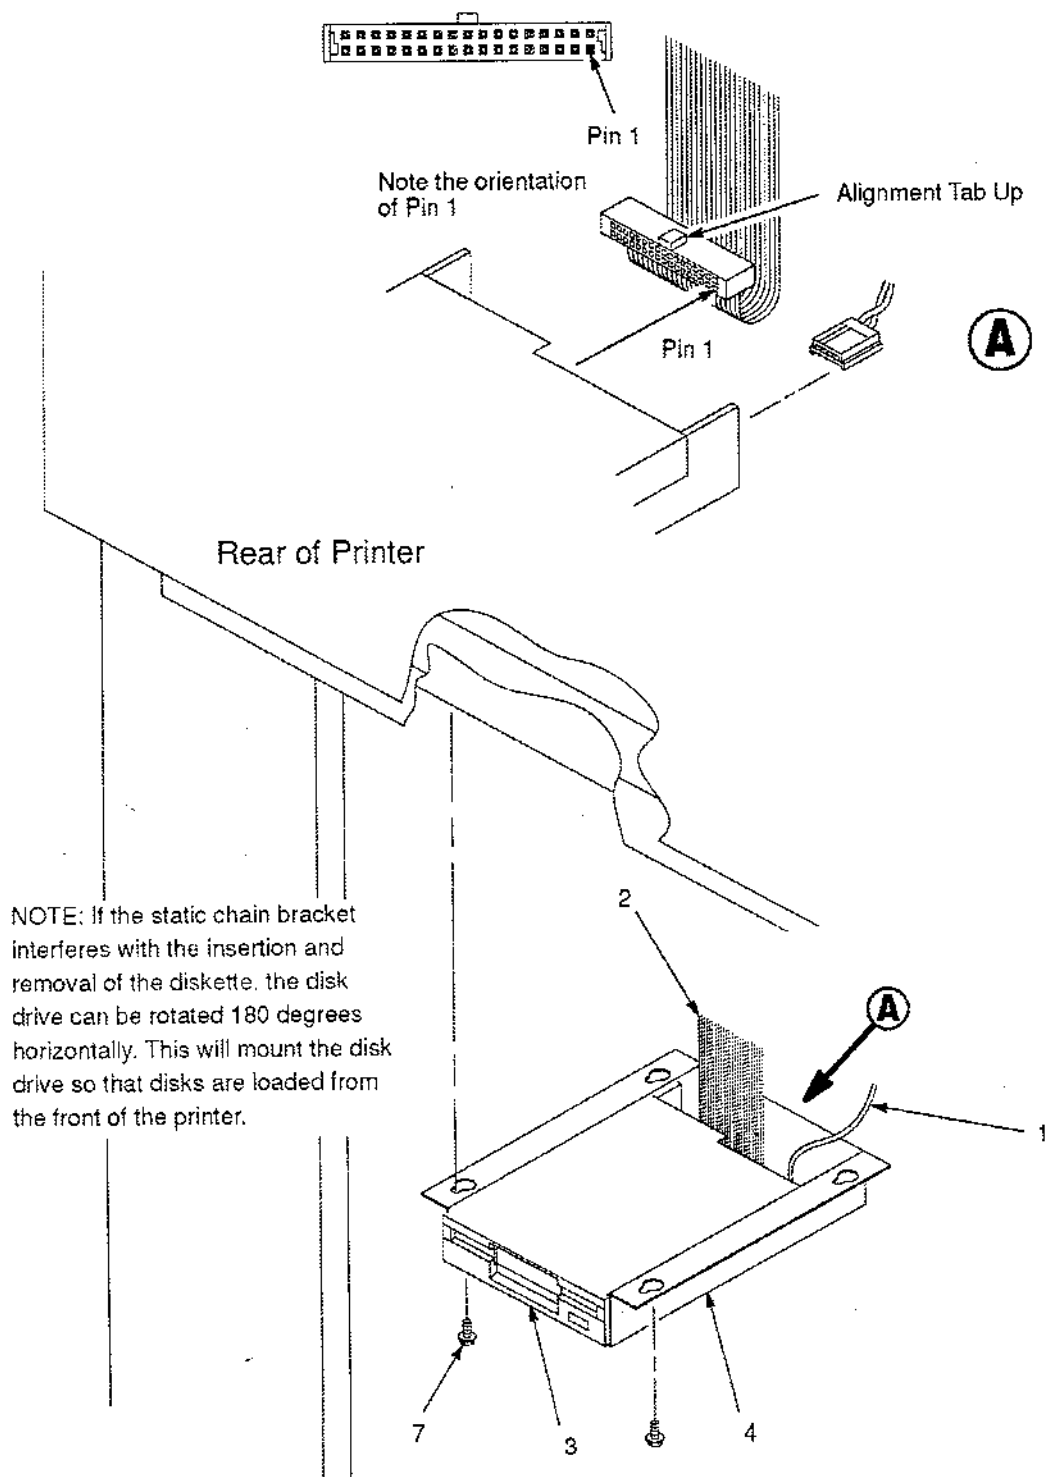

Figure 6-9. Floppy Diskette Drive
| Figure 6-9. Floppy Diskette Drive | 6-73 |
| 5 | | Screw w/Lockwasher (4) | 6-32x.50. Not shown in Figure 6-9. Holds disk drive to the bracket. |
| 7 | 57G1751 | Diskette, Base Machine | Not shown in Figure 6-9. Security modules listed on page 6-47 and in Appendix I. |